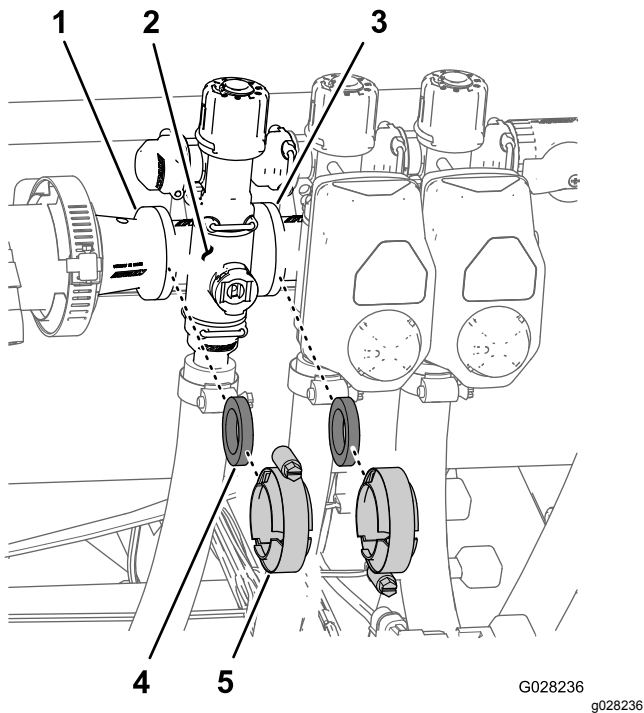

Figure 116
1. Remove clamps and gaskets that secure the manifold for the section valve (Figure 116) to the adjacent section valve (if left section valve, and the reducer coupling).